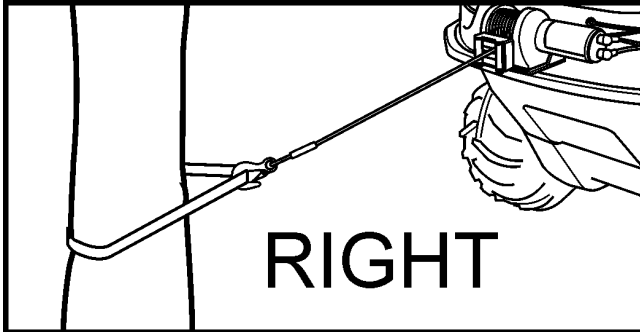
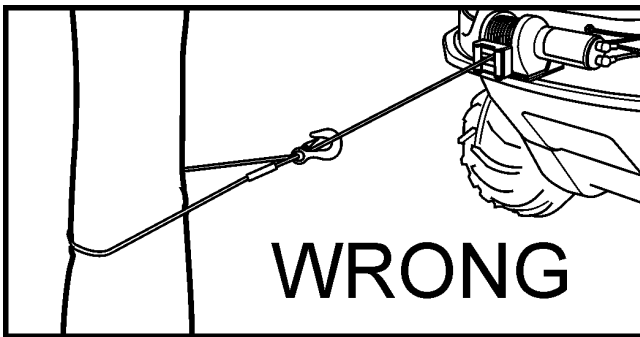

Figure 11-18. Correct hook-up.
Figure 11-19. Incorrect hook-up.
8. NEVER HOOK THE WIRE ROPE BACK ONTO ITSELF. Use a nylon sling. (Figure 11-18.) Hooking the wire rope onto itself can damage the rope (Figure 11-19).